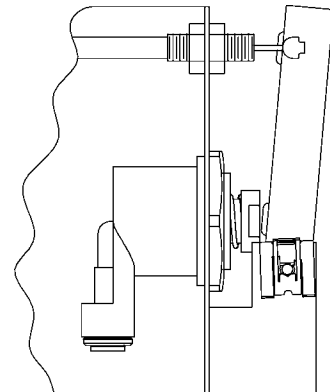

FIG. 3
3. Remove cable free play by adjusting the jam nuts on the ends of the operating cable. See Figure 3